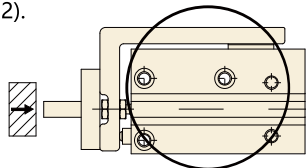

Figure 1
2. If the cylinder is moving by the external limit, the reaction force generated at the limit should coincide with the axial direction of the cylinder piston rod (as shown in Figure 1), if it does not coincide, it will produce a large torque and reduce the service life, such as the guide rail will be damaged (as shown in Figure 2).